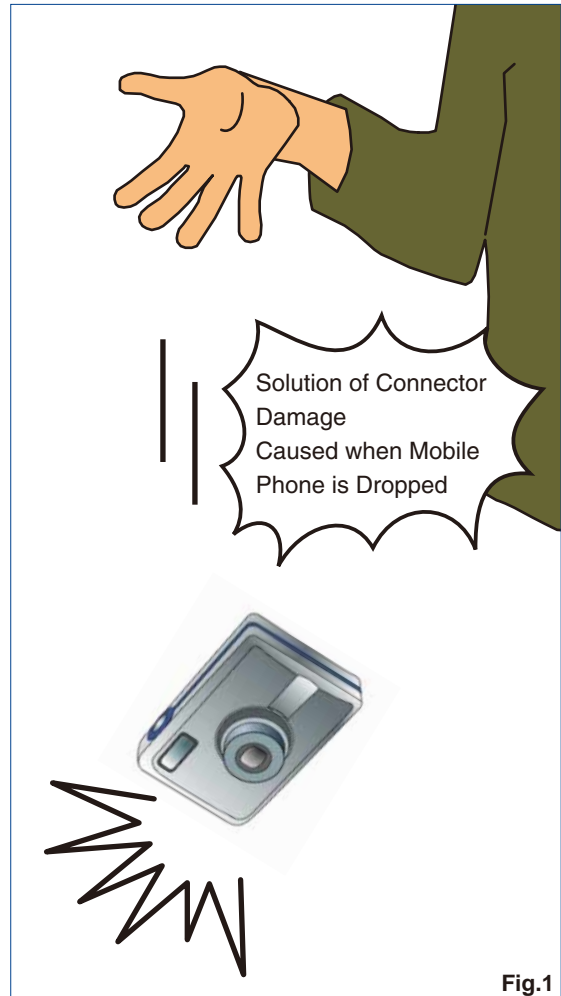

Fig.1
- Convex on receptacle increases strength enhance shock-proof, pinch-proof and scoop-proof performance. (Fig.1)(Fig.2)